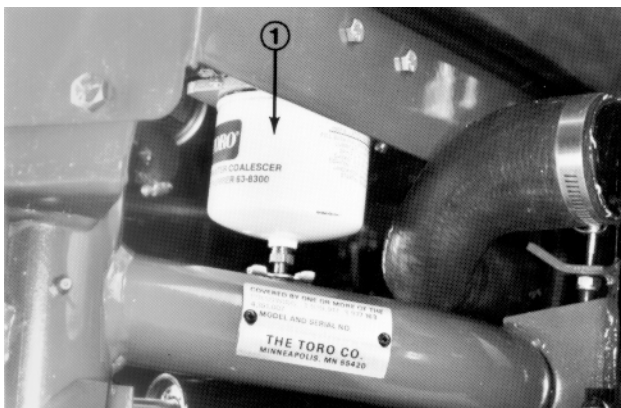

Figure 10
- Locate the fuel filter/water separator at the right rear under fuel tank (Fig. 10).